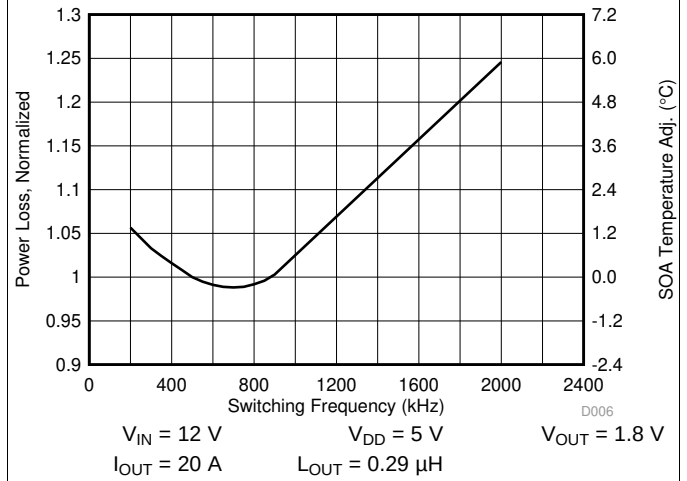

Figure 6. Normalized Power Loss vs Frequency
- Normalized power loss for switching frequency $\approx$ 0.99 (Figure 6)
- SOA adjustment for switching frequency $\approx$ -0.2°C (Figure 6)